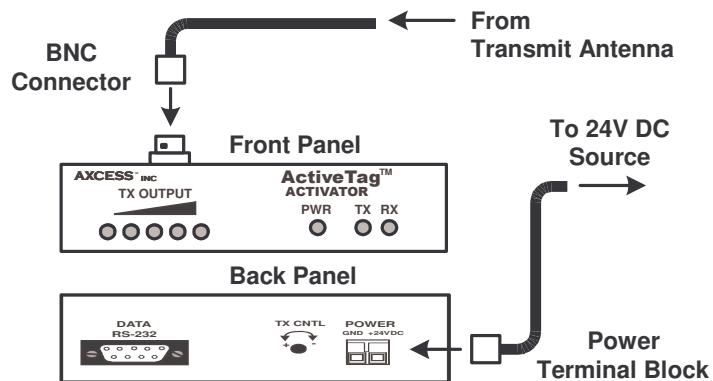

Figure 3 Connecting power to the Activator
- 2: Plug the power terminal block into the back of the Activator (Figure 3).